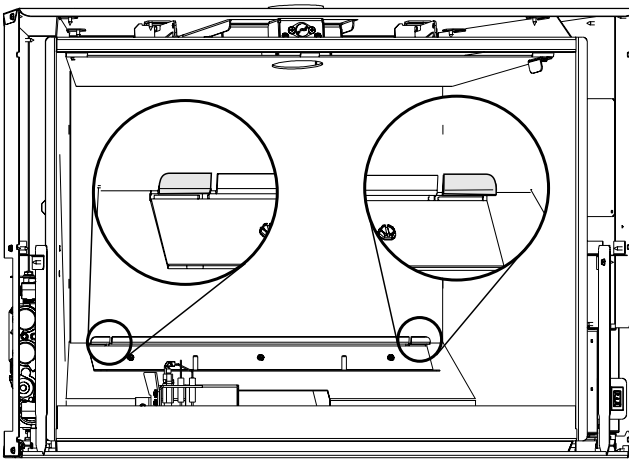

Figure 31. Bend retainer tabs against the glass panel.
5. Bend the tabs at each end of the retainer shelf to lock the glass in place. Fig. 31.